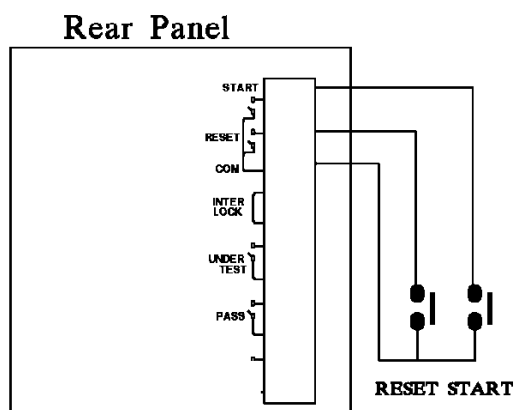
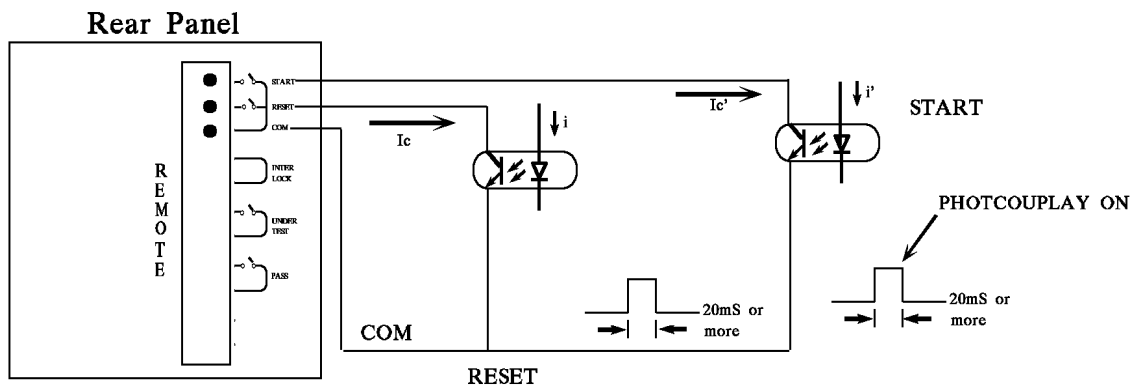

Figure 4-1
Figure 4-3
1. For single control of START and STOP signals, follow *Figure 4-1* listed below to connect them to the REMOTE position on the front panel of the main system.
3. The logic components of the transistor, FET, and couplers can be connected and used as a control circuit. The connected signals and circuit are shown in *Figure 4-3* below. To use this circuit to control the system, it must contain the following:
4. Either the relay switches control in *Figure 4-1* or the coupler control in *Figure 4-3* uses the contact of components for control action. It can prevent the error operation from interference effectively. Though the system has a lot of precautions, it is necessary to be careful about the interference caused by the measurement system settings.